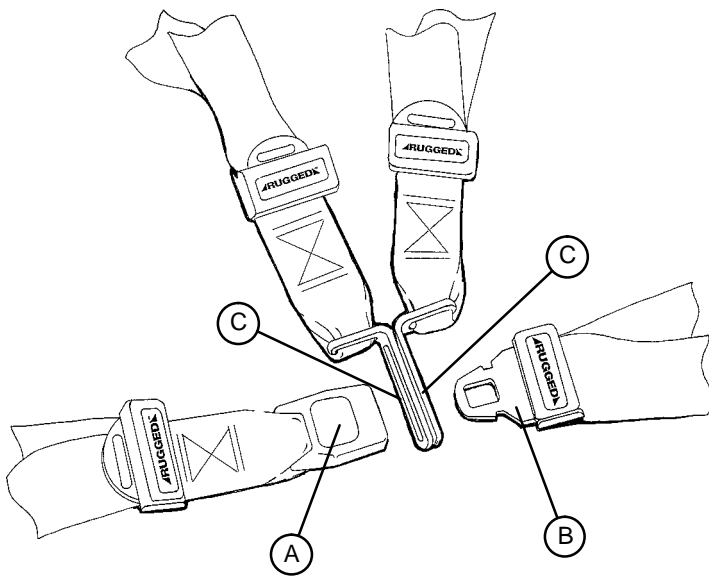

Figure 9 – Buckling the Safety Restraints
To open the restraint, press the red button (A) on the front of the buckle "receiver". This releases the buckle "tang" (B) which can then be pulled out of the receiver (Figure 9).
To close the restraint, push the tang into the receiver until a "click" is heard. When fastening the chest restraint be sure the tang passes through both links (C) on the shoulder strap (Figure 9).